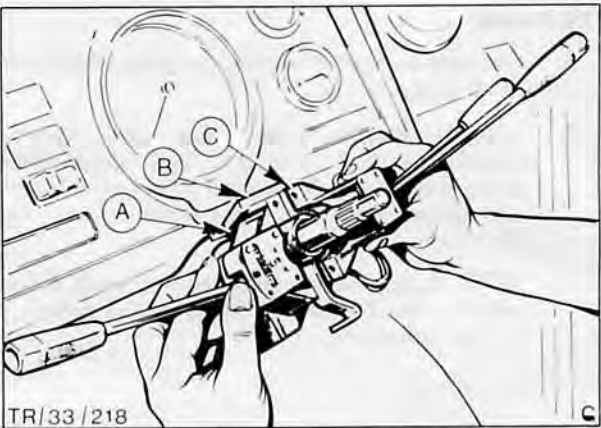

Fig. 35. Aligning switches to column
6. Align indicator switch, steering column shroud bracket, and light/windscreen wiper switch around steering column, Fig. 35, and secure with two cross-head screws.